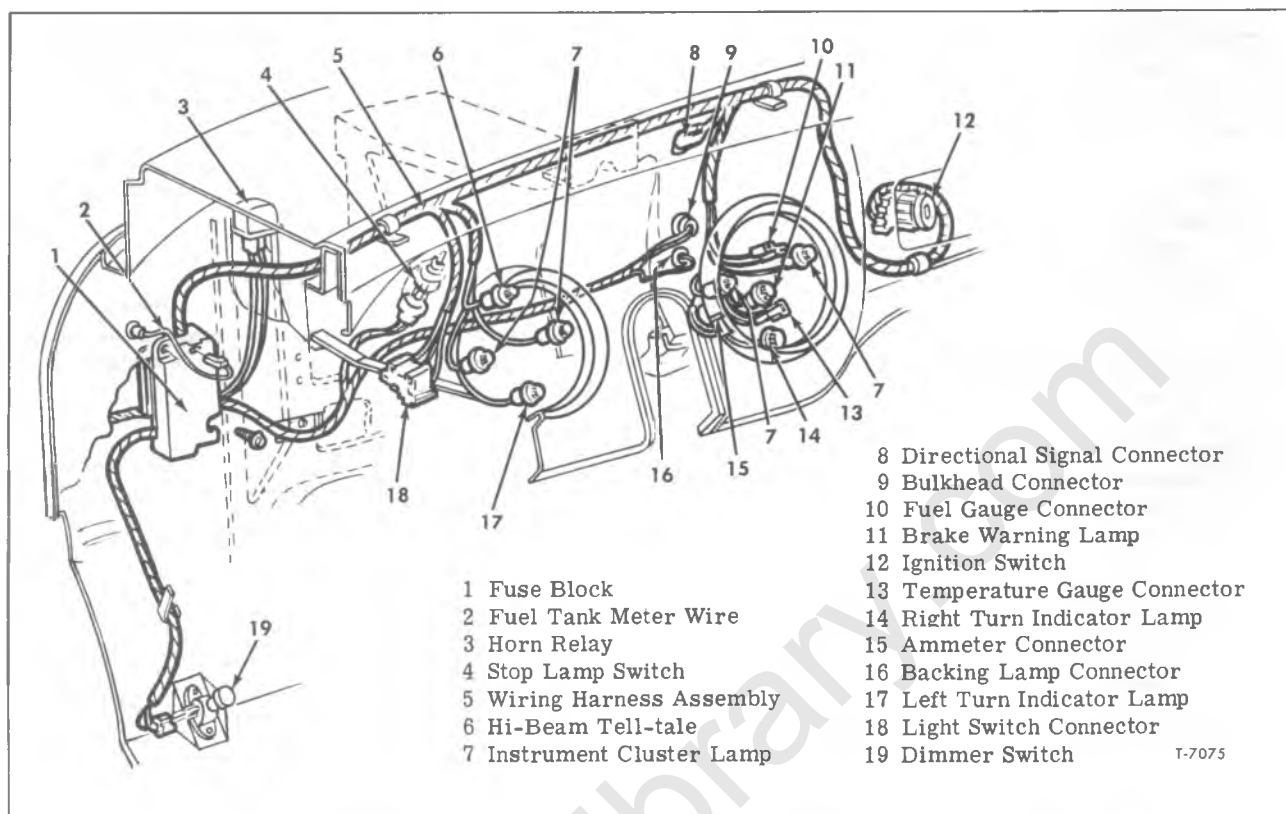

Figure 10—Instrument Panel Wiring (Cowl and "S" Models) (Typical)
Electrical connections to gauges are made through blade-type connectors (fig. 10). The instrument and tell-tale light bulbs are installed in sockets which snap into holes in back of cluster.
3. Connect electrical terminal connectors to respective terminals on instrument cluster and install indicator and illumination lamp bulbs in respective openings in instrument cluster (fig. 10).